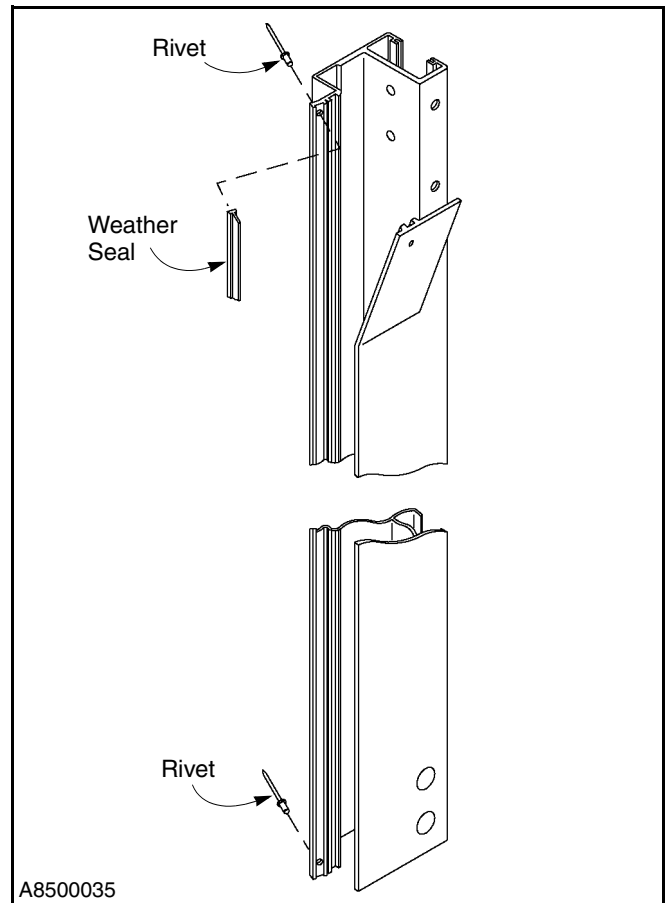

Figure 39
1. Drill out rivets in side columns and remove the old seal. (See Figure 39.)